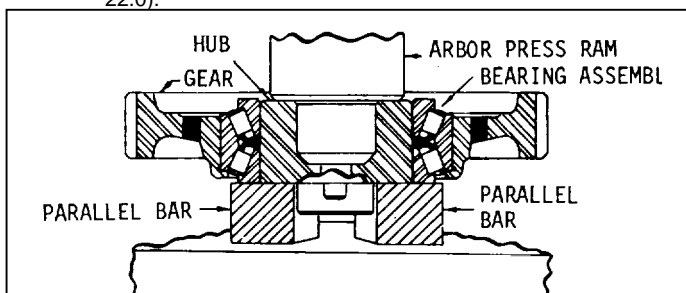

Fig. 8
- (2) With these marks in alignment, start the idler gear into mesh with the crankshaft gear and camshaft gear, and simultaneously rotate the gear hub so the dowel in the hub registers with the hole in the end plate.
- (3) Roll the idler gear into position and align the hollow dowel with the oil hole in the end plate. Then gently tap the hub until it seats against the end plate.
- (4) After making sure the hub is tight against the end plate, secure the idler gear assembly with the 1/2"-13 bolt and special washer. Tighten the bolt to 80-90 ft/lb. (108-122 N.m) torque.
- (5) If previously removed, install the idler gear hole spacer (dummy hub) (Fig. 8). Secure the spacer to the cylinder block end plate and cylinder block with a 1/2"-13 bolt and special washer. Tighten the bolt to 80-90 ft/lb. (108-122 N-m) torque.
- (6) Lubricate the idler gear bearing and gear teeth liberally with clean engine oil.
- (7) Check the backlash between the mating gears. The backlash must be .002" to .008" between new gears and must not exceed .010" between worn gears.